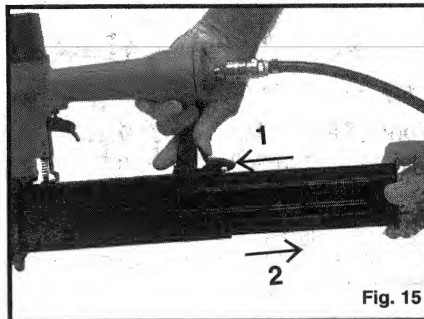

Fig. 15
2. Depress latch and slide magazine cover open, see Fig. 15.